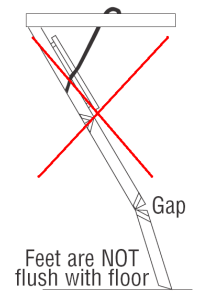

Figure 8
- If the attic ladder looks like Figure 8 (below), adjust both feet, until they are flush with floor. If you still have problems, then call Kimberley Products, 1800 225 377 and ask for customer service, or email kimprod@kimprod.com.au